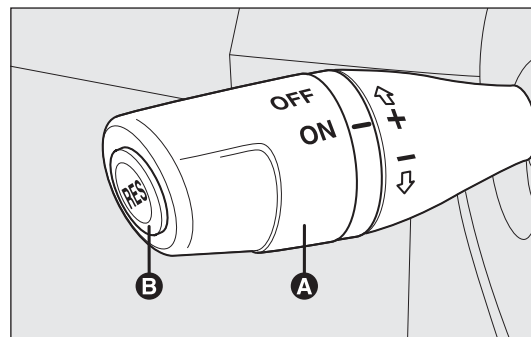

fig. 52
Turn twist switch A-fig. 52 to ON.
- ☐ turn twist switch A-fig. 52 to ON and press the accelerator pedal until you reach the required speed;
- ☐ press button RES B-fig. 52.
- ☐ pressing the accelerator pedal; in this case, the system is not really switched off but the request for acceleration takes priority. The cruise control is, however, active and you do not need to press button RES B-fig. 52 to restore the previous conditions when you have finished accelerating.